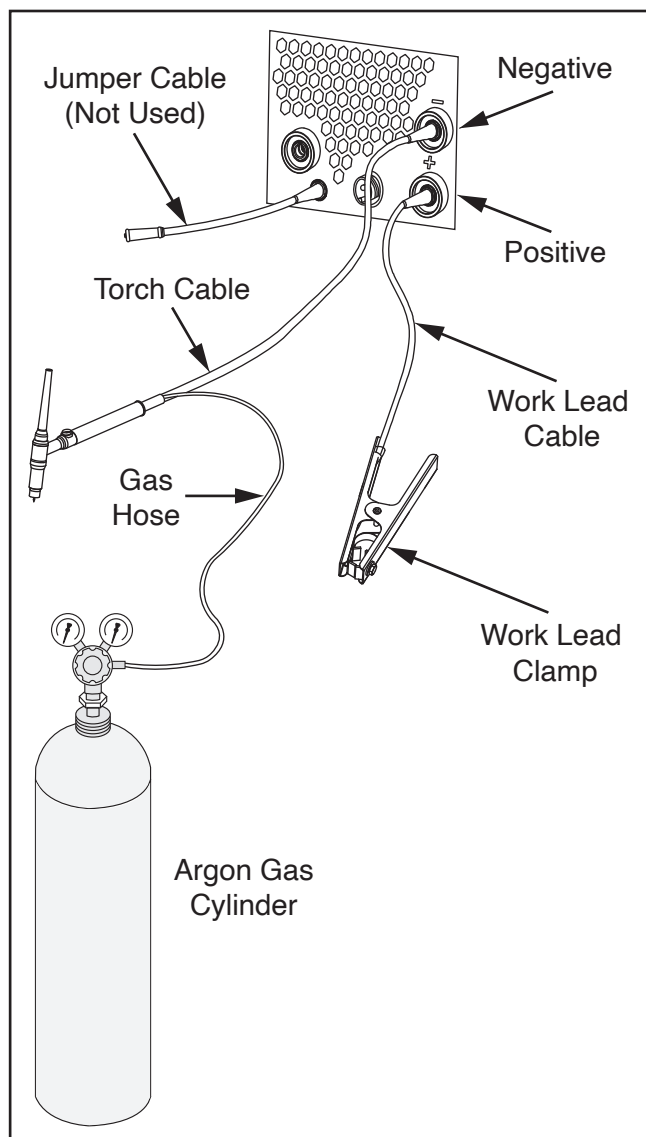

Figure 7. TIG torch connected to T34311 Welder.
1. Plug TIG torch cable into negative socket (–) on front panel of T34311 (see **Figure 7**) and tighten it.
2. Plug work lead cable into positive socket (+) on front panel of T34311 (see **Figure 7**) and tighten it.
3. Attach work lead clamp (see **Figure 7**) to workpiece to be welded.